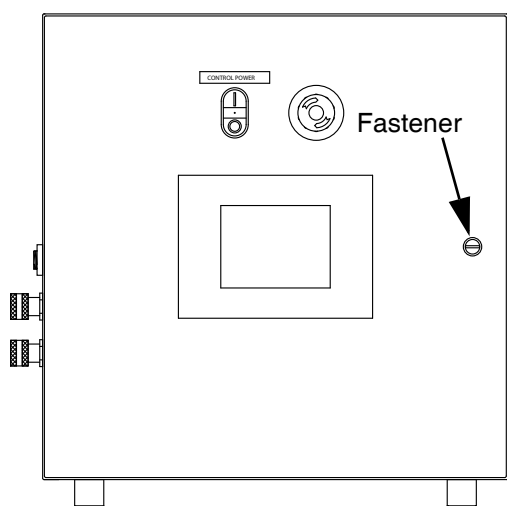

FIG. 1: Motor Driven PD44 Control Box
3. *For motor-driven PD44 control boxes*, open the door by turning the fastener a quarter turn. See Figure 1. Then go to step 8.